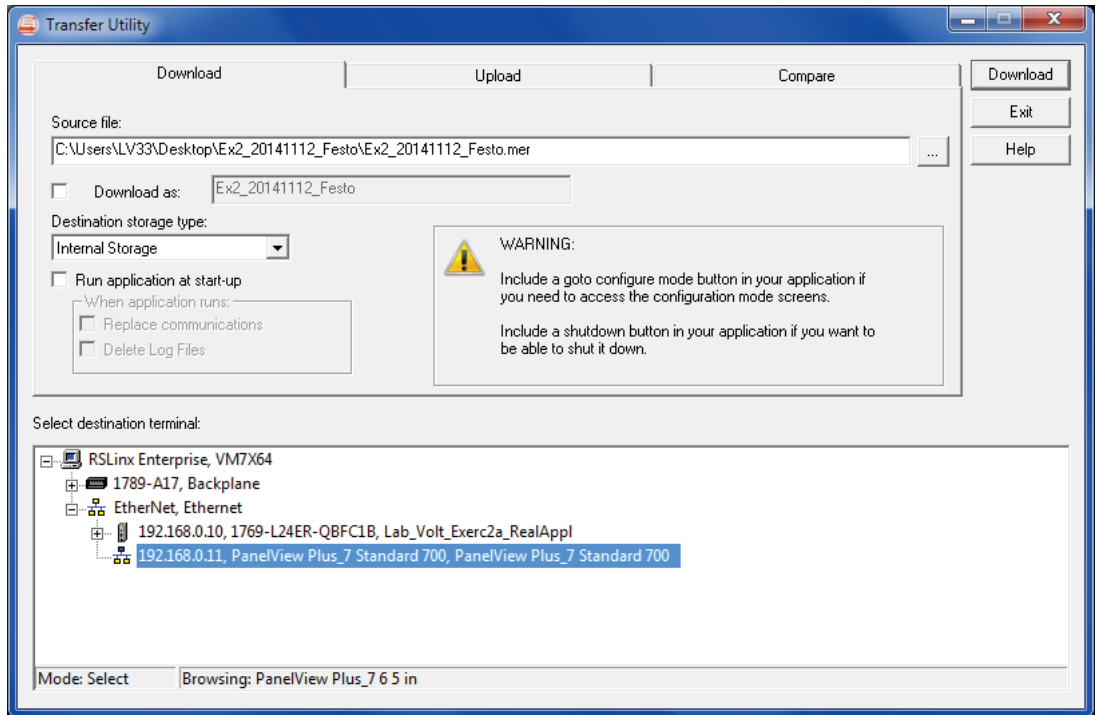

Figure 112. Transferring the .MER to the touch screen.
25. If necessary, transfer the HMI program (.mer) to the touch screen using *ME Transfer Utility*, a *FactoryTalk View Studio* tool (Figure 112).